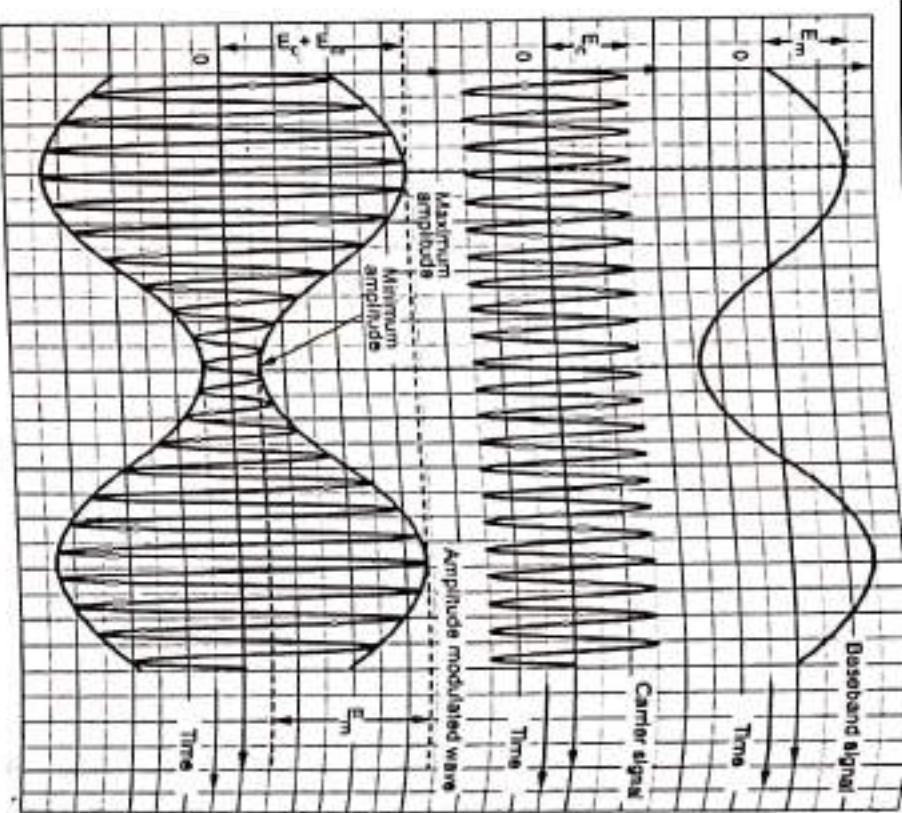

Fig. Q.33.1
**Ans.:** • Amplitude modulation (AM) is defined as system of modulation in which the instantaneous value of the carrier amplitude changes in accordance with the amplitude of the modulating signal.
- Fig. Q.33.1 shows a single frequency sine wave modulating a higher frequency carrier signal. Looking at Fig. Q.33.1 we can see that the frequency of the carrier signal remains constant during modulation process but its amplitude varies in accordance with the modulating signal.